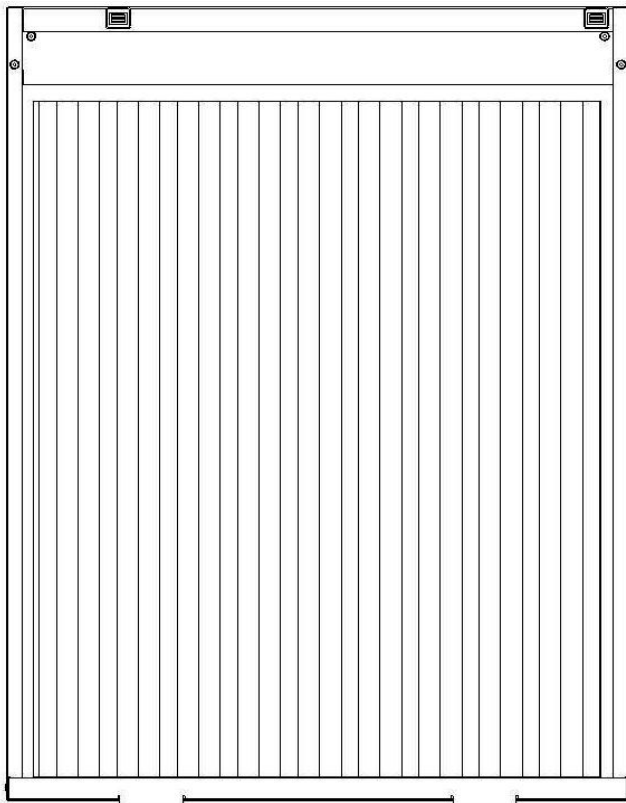

Figure 3: Return Air Louvered Door 20" x 20" x 1" Air Filters
7. Slide the air filters in place in the door so both air filters are installed as shown in Figure 3.